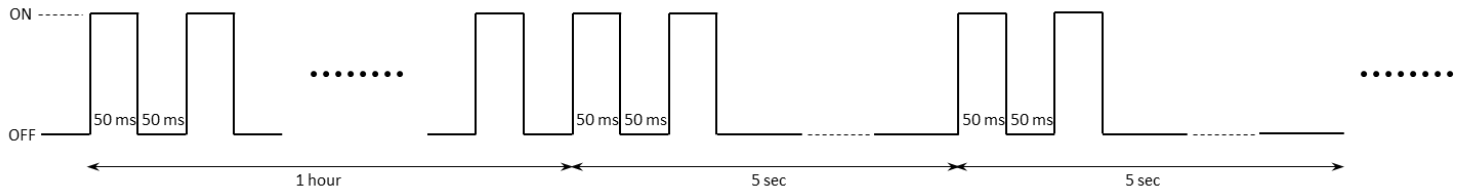

Figure 1-2: The GREEN LED Pattern During Join
4. Both **GREEN** and **RED** are turned off when the POST and the subsequent LED flashing specified in item 3 end.
- a. **GREEN** is toggled ON and OFF every 50 ms for the first hour. After that, it only flashes twice (ON time: 50 ms, OFF time: 50 ms) every 5 sec. This scheme has been shown in Figure 1-2.